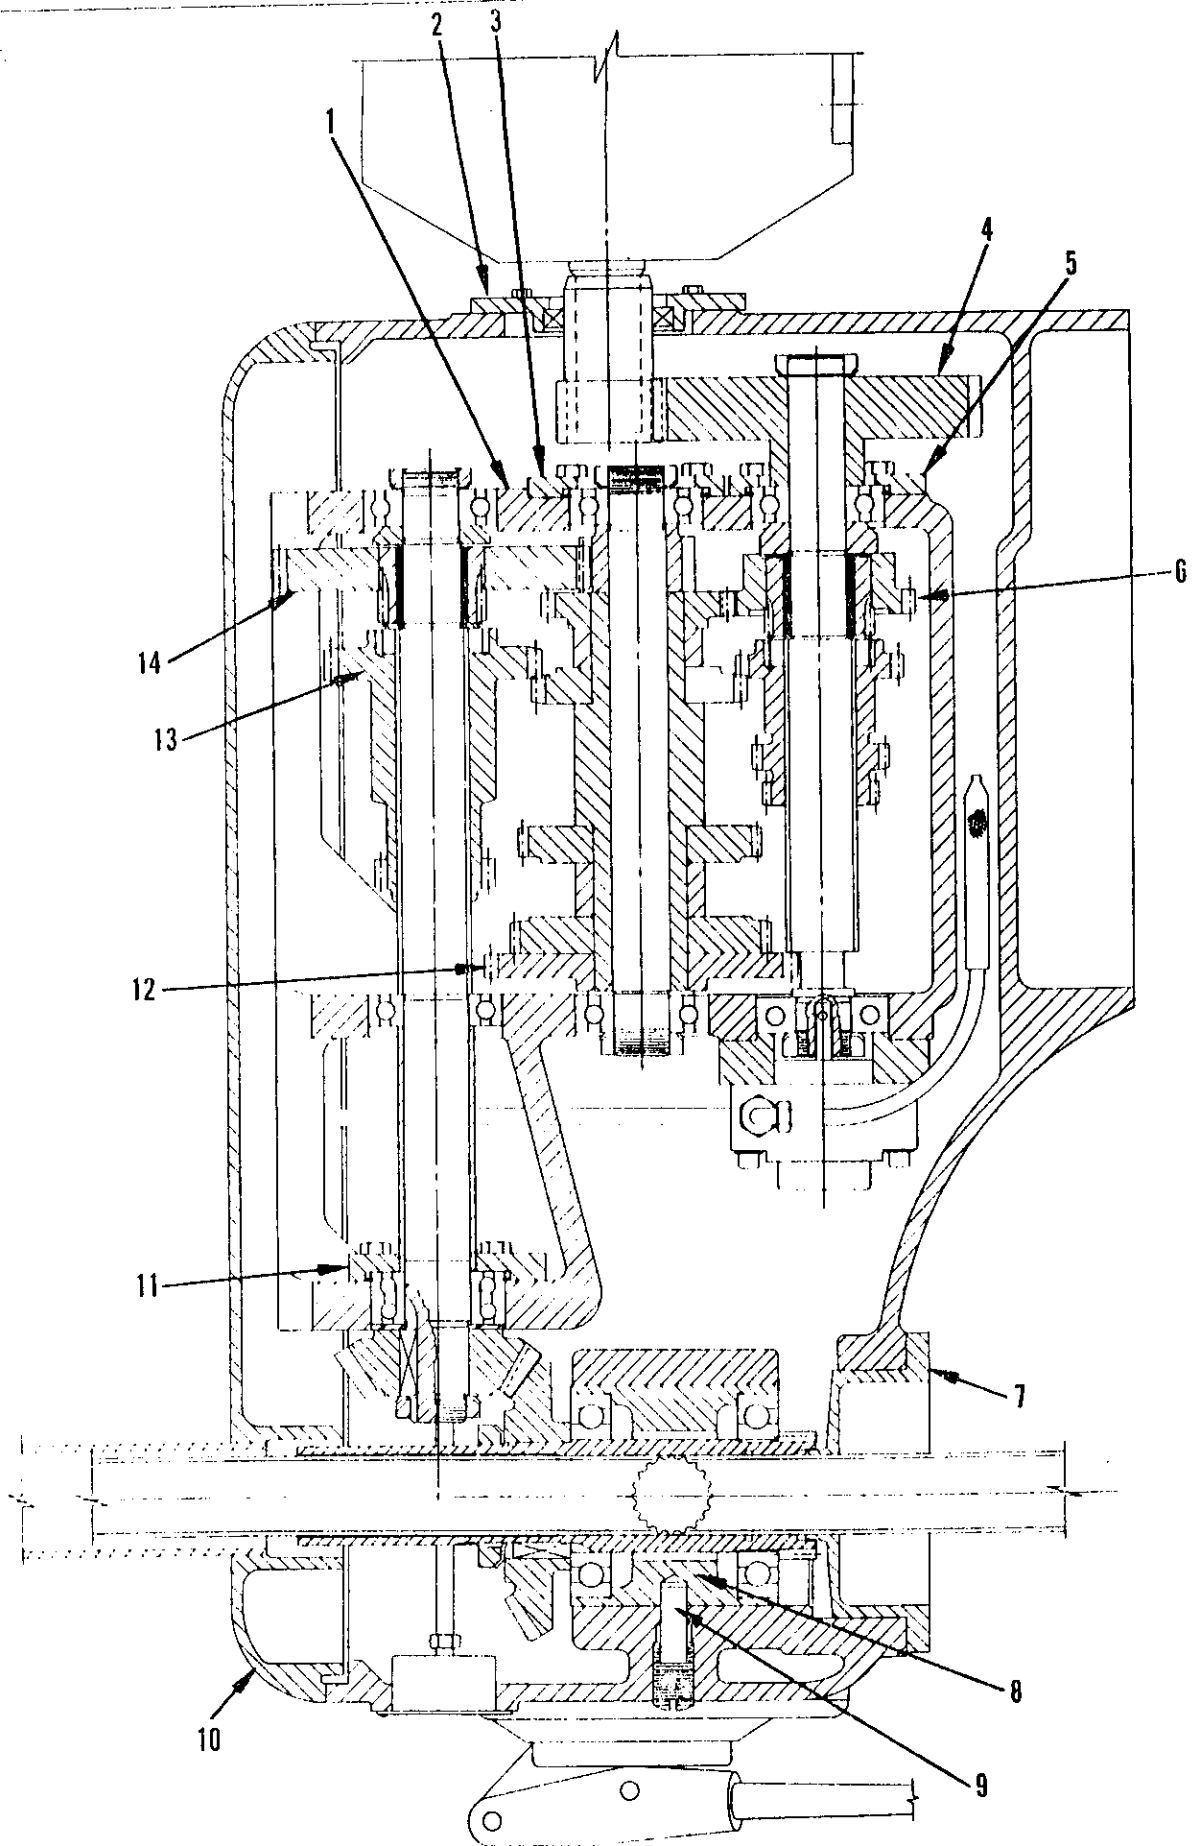

Figure M-2. Top Head – Speed Transmission
SPEED GEAR TRAIN REMOVAL (Figure M-2)
7. Remove the transmission frame (1, Figure M-2).
8. To remove the spiral bevel gear unit (after transmission is removed), remove the bottom closure (7) and unscrew the locating plug (9). Drive the bearing cartridge upward using a bronze rod to drive against the lower end of the cartridge (8).
LEGEND - Figure M-2
DISMANTLING THE TRANSMISSION FRAME (Figure M-2)